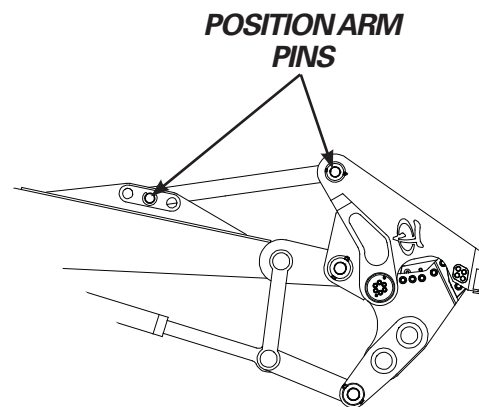

FIGURE 3-3
7. With all personnel standing clear, fully curl the excavator stick and extend the bucket cylinder to position the lower jaw as shown in figure 3-3.